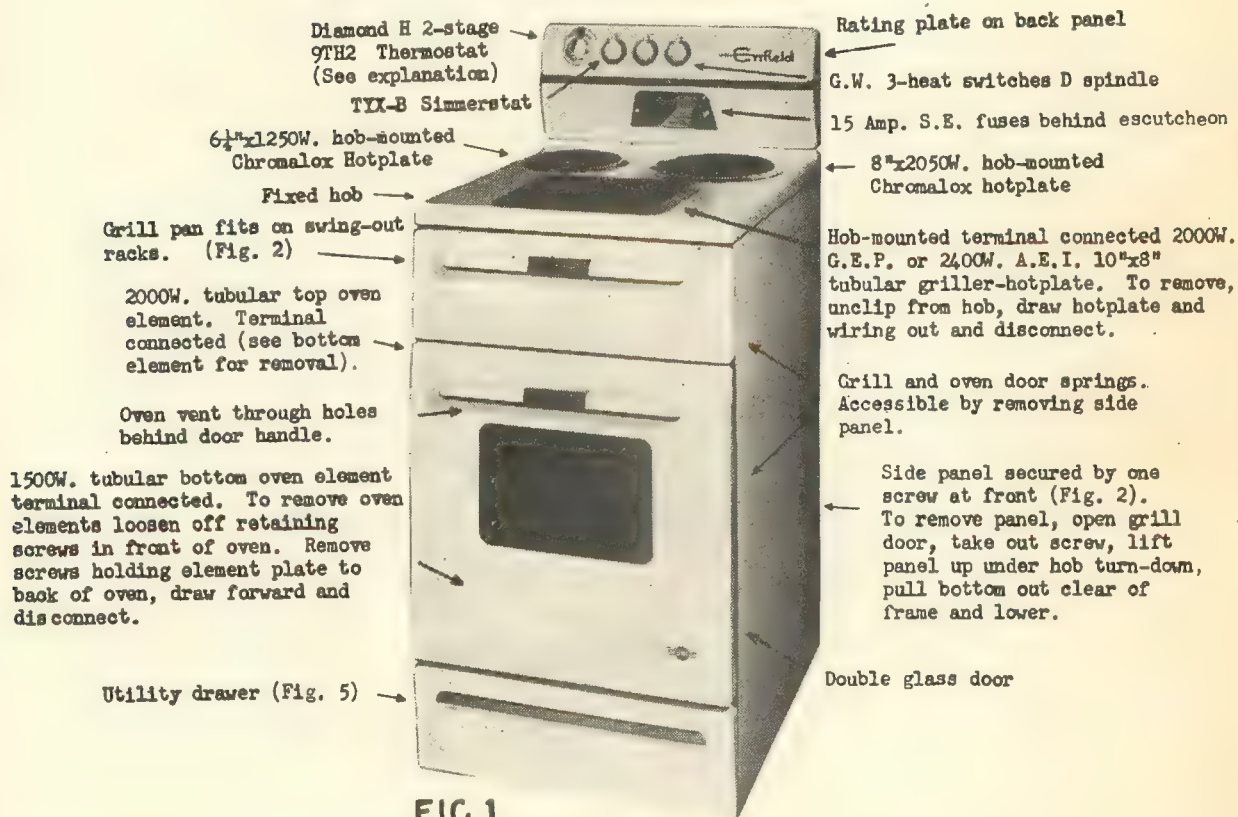

FIG.1
"Enfield" Upright Cabinet Model, 3-hotplate—Fig. 1
8.8kW, 36.6 amp. or 9.2kW, 38.4 amp., depending on rating of griller-hotplate fitted (see Fig. 1).